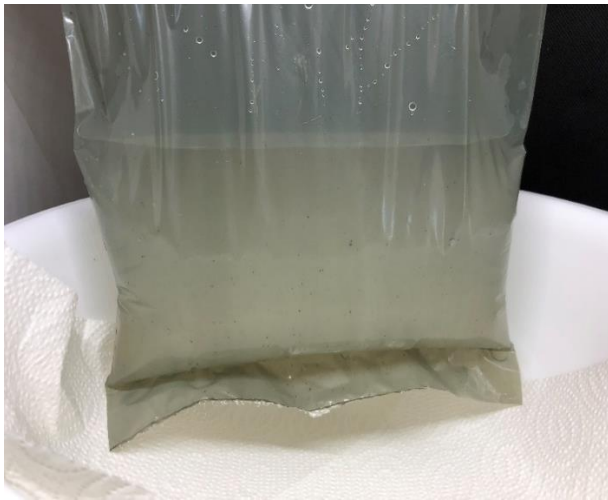

Figure 1: Seam tightness test setup
- The one-side sealed film tubes are filled with 1 kg of water and hung on the open side so that the seam is under load (see Figure 1). A soaking paper can be placed under the sample for the indication of water drops due to leakages